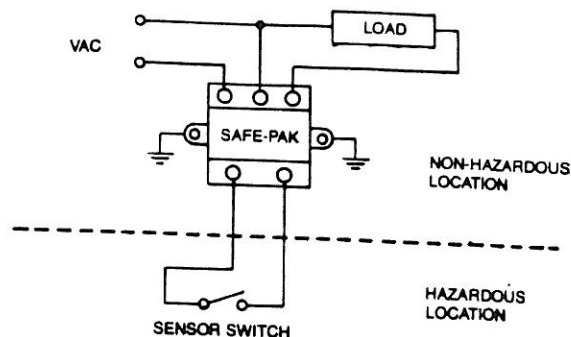

Fig. 1. Connection diagram, Gems SAFE-PAK models.
1. The Safe-Pak must be located in a non-hazardous area; only the switch or sensor terminals provide an intrinsically safe output (see Figs. 1 or 2).